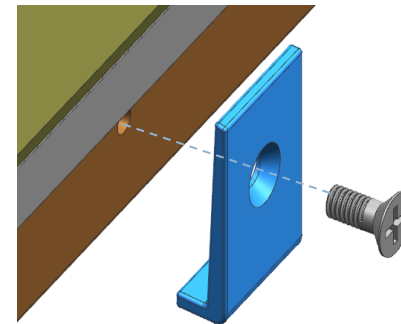

Fig.4
- ※ Assemble the Cover PCB as shown below.(Fig.4)